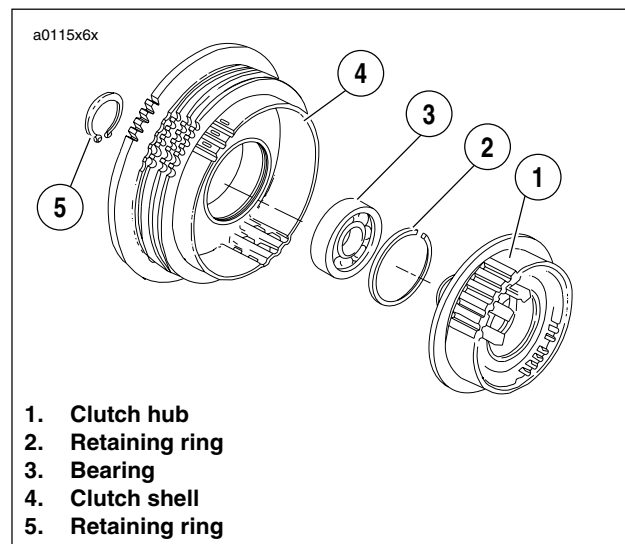

Figure 6-20. Clutch Hub and Shell Assembly
- See Figure 6-20. Place a wrench on the clutch spring forcing screw flats to prevent the forcing screw from turning.
- See Figure 6-20. Assemble clutch hub and shell if necessary.